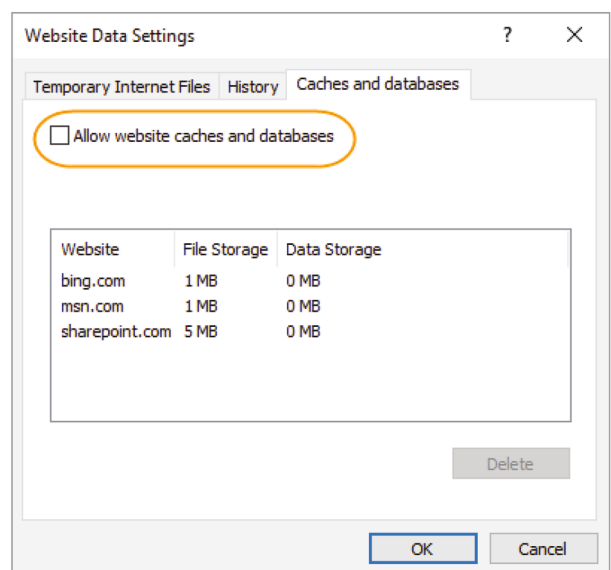

Fig. 28. Cache and Databases menu
5. In the tab 'Cache and databases', Fig. 28, verify that the option indicated in the image is not selected.
The 'Monitor' page in Fig. 28 shows a summary of the current status of the device.